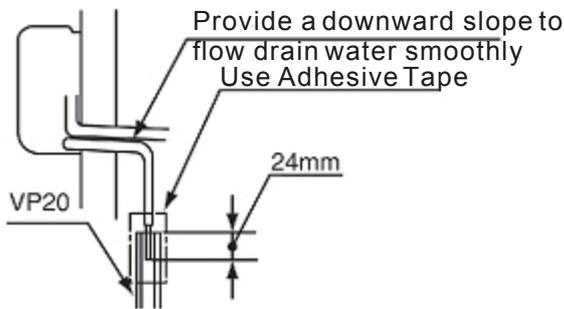

Fig. 6.3 Connection of Drain Piping
- (3) Provide a vinyl chloride pipe, VP20.
- (4) Connect a drain piping as shown in Fig. 6.3.